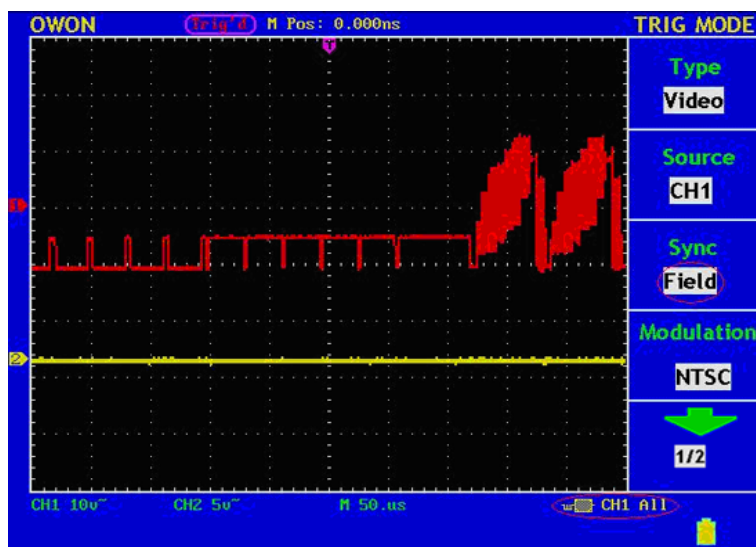

Fig. 62 Wave Form Obtained from Video Field Trigger
5. Adjust the **VOLTS/DIV**, **VERTICAL POSITION** and **SEC/DIV** knobs to obtain a proper wave form display (see Fig.62).